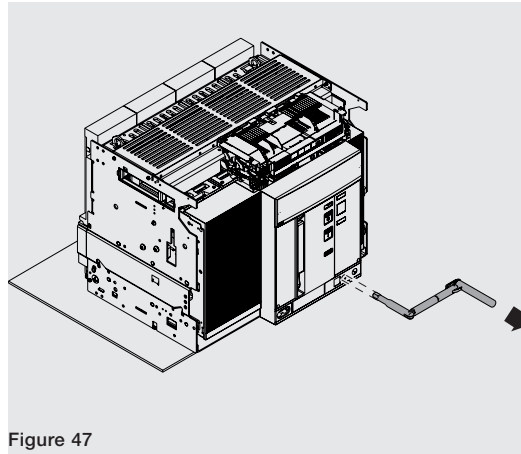

Figure 47
12. Extract the crank. See Figure 47.